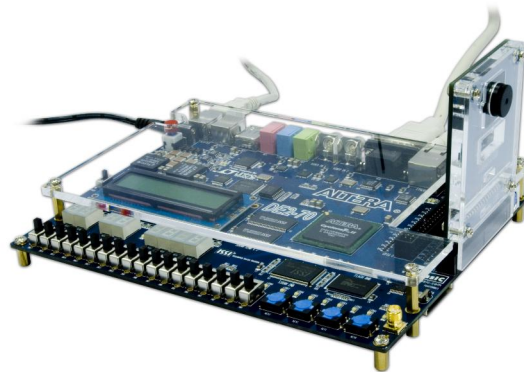

Figure 1.4 Connect the D5M to DE2-70 board's expansion port (**outermost port**).
3. Connect the D5M to your DE2-70 board as shown in Figure 1.4.